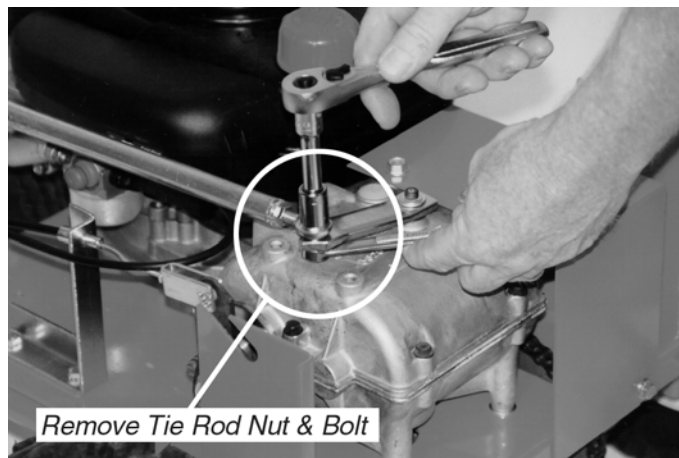

Figure 33
3. Loosen and remove the tie rod nut and bolt from the transmission arm (*Figure 33*). Unhook the tie rod from the transmission arm.